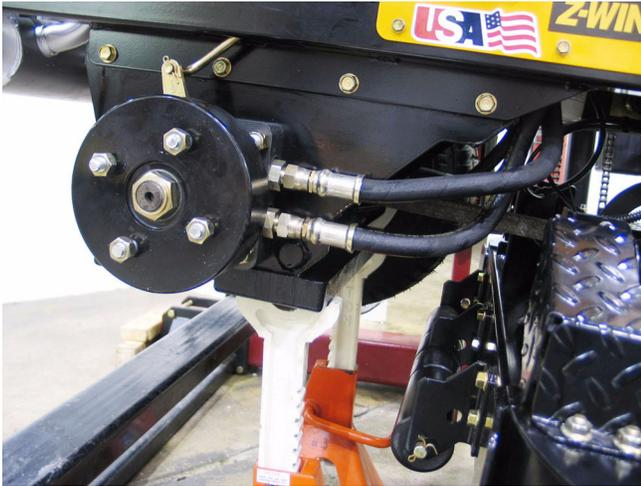

Figure 26.4
26.4. Remove the wheel from the wheel motor to be replaced using a 3/4" wrench. See Figure 26.4.